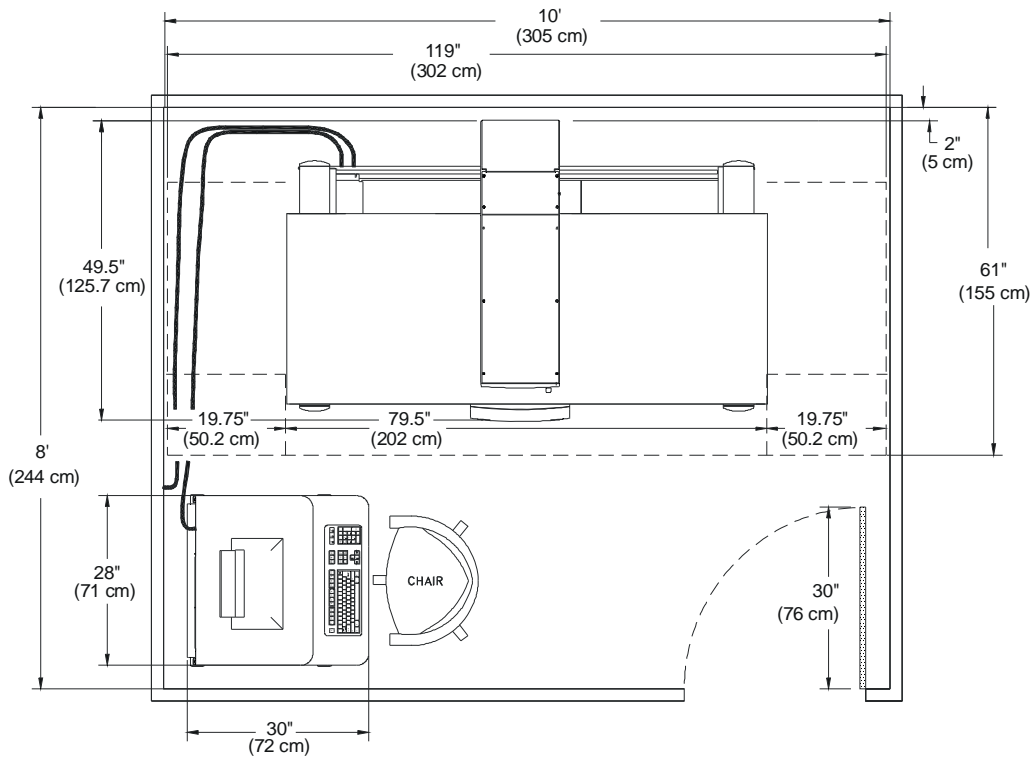

Figure 1-5. Explorer with Whole Body Option
- Figure 1-5. Explorer with Whole Body Option